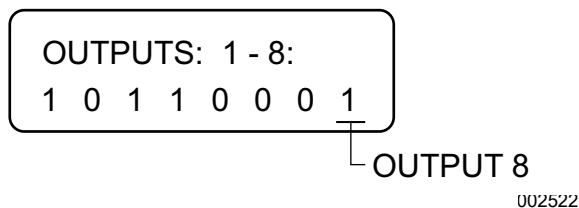

Figure 3-58. The Output Screen – Output 8
6. See **Figure 3-58**. Digital Output 8 is the Wire 23 output from the controller (Figure 3-55)